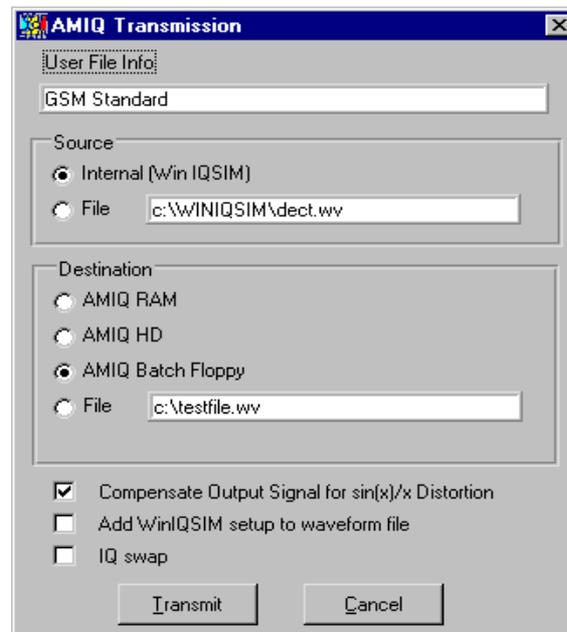

Fig. 1 The **AMIQ Transmission** panel in WinIQSIM. The destination section of the panel offers the user alternative options to transfer a waveform to the AMIQ.
Once a waveform has been generated with the aid of WinIQSIM the user can select one out of four methods to transfer the waveform to the AMIQ. Fig. 1 displays the options in the Destination section of the **AMIQ Transmission** panel of WinIQSIM:
**Note:** *If in the AMIQ Transmission panel (Fig. 1), in the Destination section the AMIQ Batch Floppy option is selected, WinIQSIM generates a "winiqsim.iec" batch command file directly on a floppy disk inserted in the PC floppy drive.*
In the Source section of the panel (Fig. 1) choose whether the I/Q signal defined by WinIQSIM (Internal) or a signal previously stored on the hard disk of the PC should be transmitted (**File**).